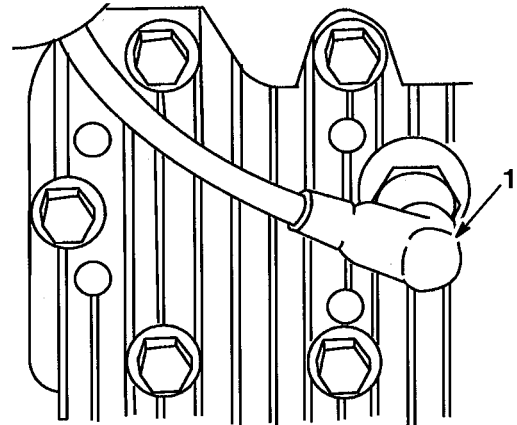

Figure 9
4. Connect spark plug wire (if disconnected) (Fig. 9).